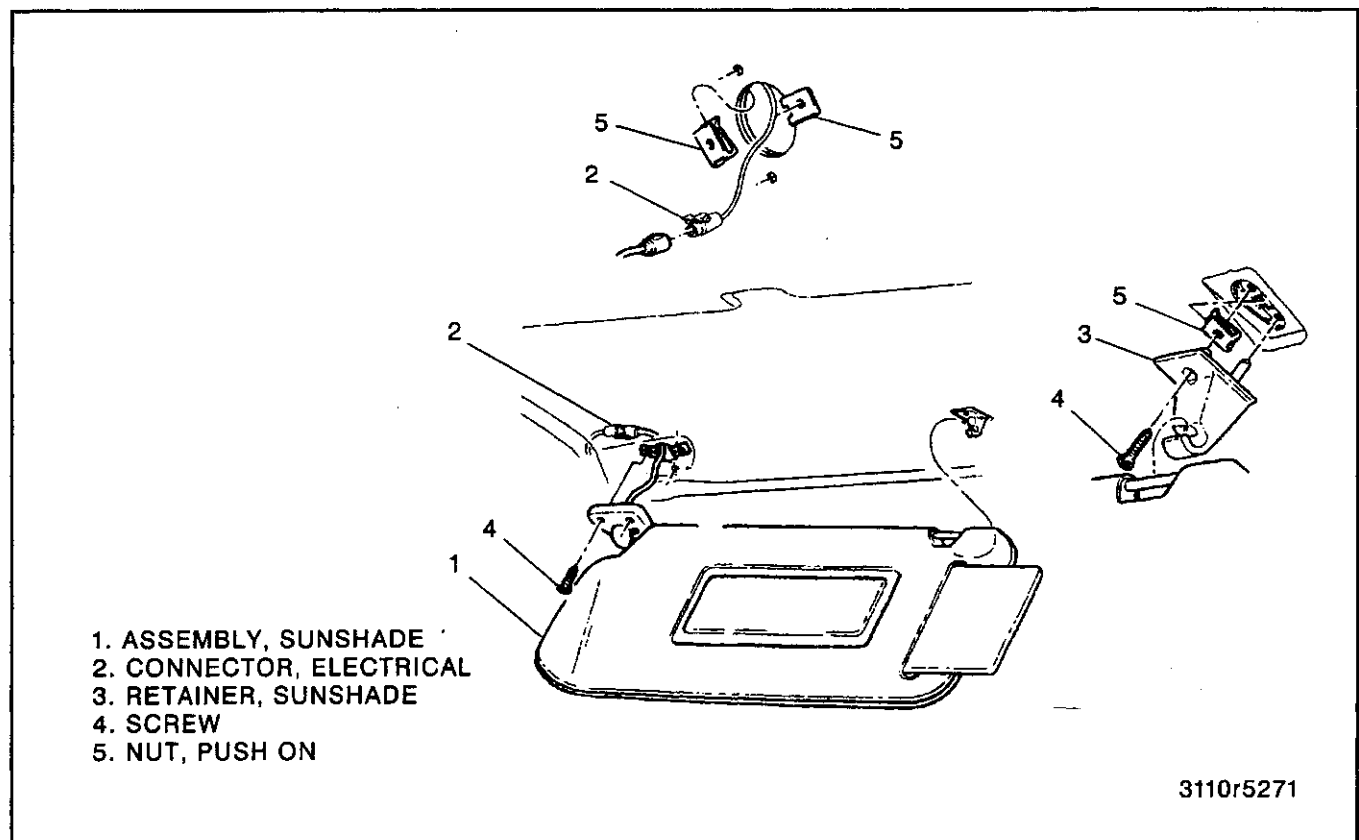

Figure 8—Sunshade Replacement
**Remove or Disconnect (Figure 8)**
**Install or Connect (Figure 8)**